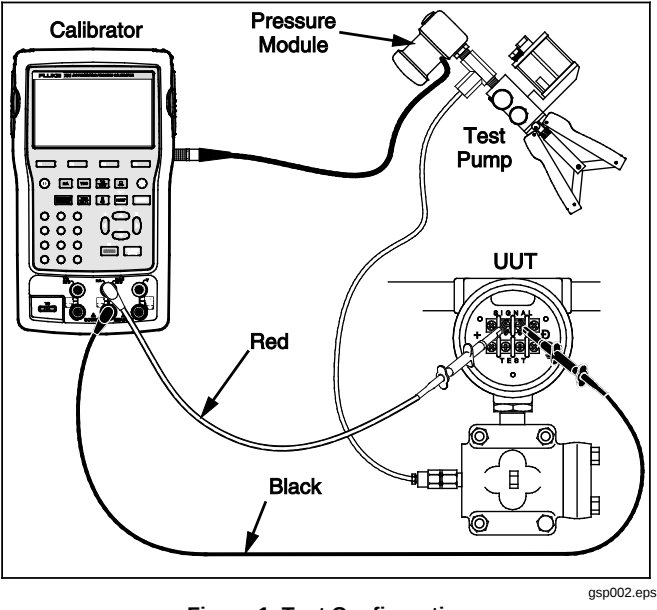

Figure 1. Test Configuration
1. Connect a 700 Series Pressure Module (the Pressure Module) to the Master Instrument Port (item ①). To connect to a 700P High Pressure Module (700P29, P30, or P31) install a male 1/4-inch NPT Adapter. Use Teflon® tape or equivalent on the NPT thread connections to prevent leaks.
3. Connect the Pressure Module to the calibrator as shown in Figure 1.
4. Connect the input of the Pressure Unit Under Test (UUT) to the Test Pressure Port (item ②) on the Test Pump.
5. Loosen the Pressure Bleed Knob (item ⑨) to release pressure from the Pump.
7. Turn the Vernier Fine Adjustment Knob (item ④) to the middle-range.
8. Turn the Pressure Bleed Knob (item ⑨) clockwise until it stops in the full closed position.